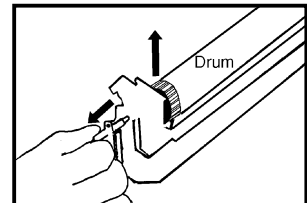

Figure 5
- Remove the drum axle and the OPC drum (Fig. 5). Clean, inspect and lubricate the drum and store in a dark place. Replace if necessary.